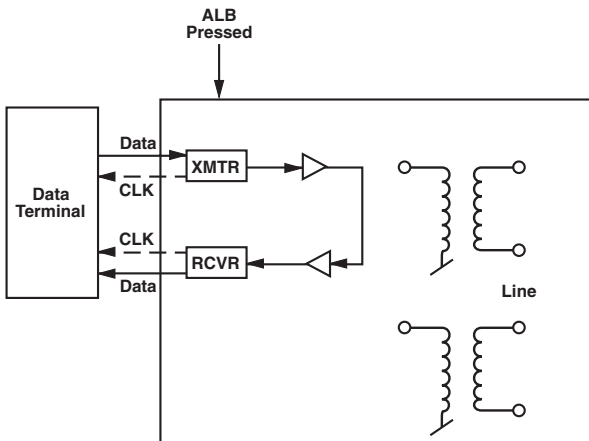

Figure 5-3. Local Driver in local analog loopback.
1. Push the ANA (Local Analog Loopback) button. The TEST LED should light. The Driver's transmit output is now connected to its own receiver (see **Figure 5-3** on the next page)